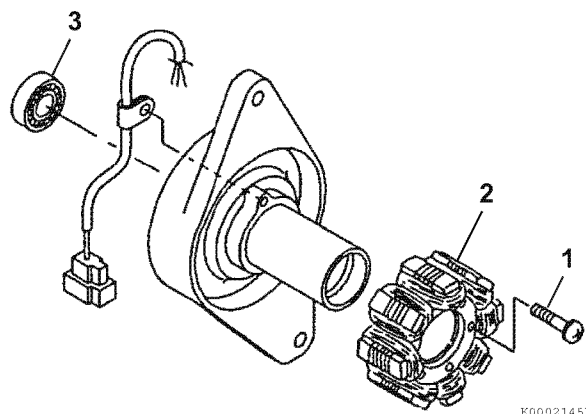

Figure 12-26
4. Remove the screws (1, **Figure 12-26**) and the stator assembly (2, **Figure 12-26**).
5. Remove the rear bearing (3, **Figure 12-26**).
1. Reinstall the rear bearing (3, **Figure 12-26**).
2. Reinstall the stator (2, **Figure 12-26**).
3. Reinstall screws (1, **Figure 12-26**).